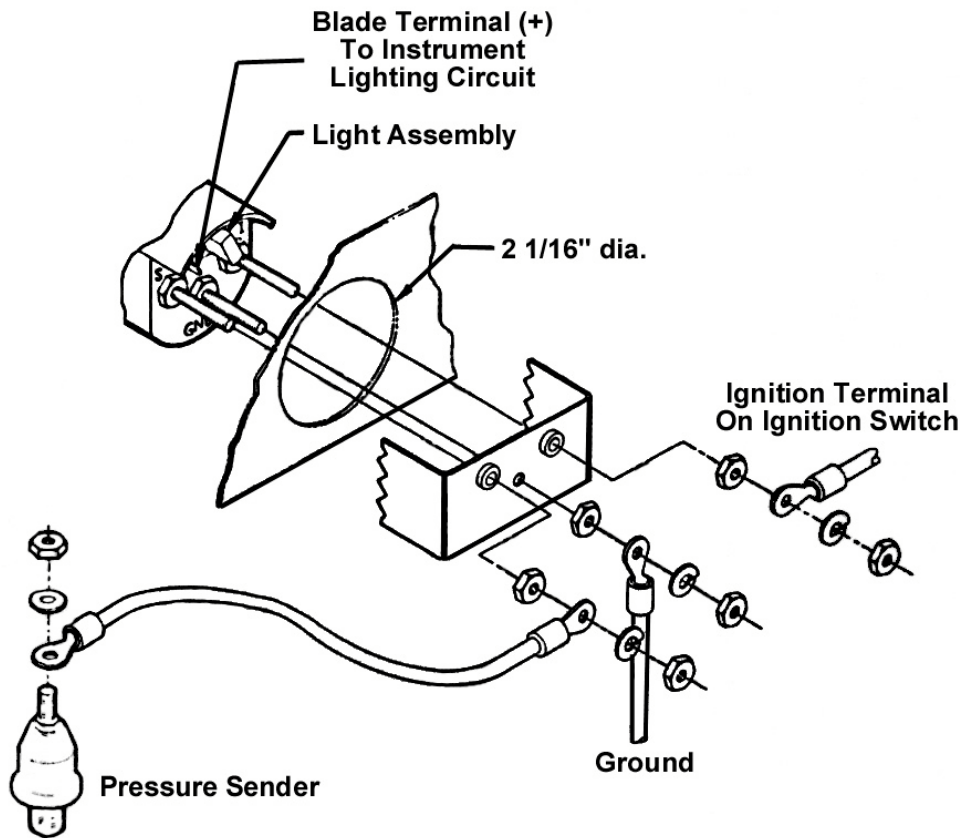

Figure 1
2. A 2/16" diameter-mounting hole in either a bracket or the dashboard will be needed to properly mount the gauge. Place the gauge in the hole and slide the back clamp over the terminals in the back. Secure with the nuts provided. Fingertighten only. See Figure 1.